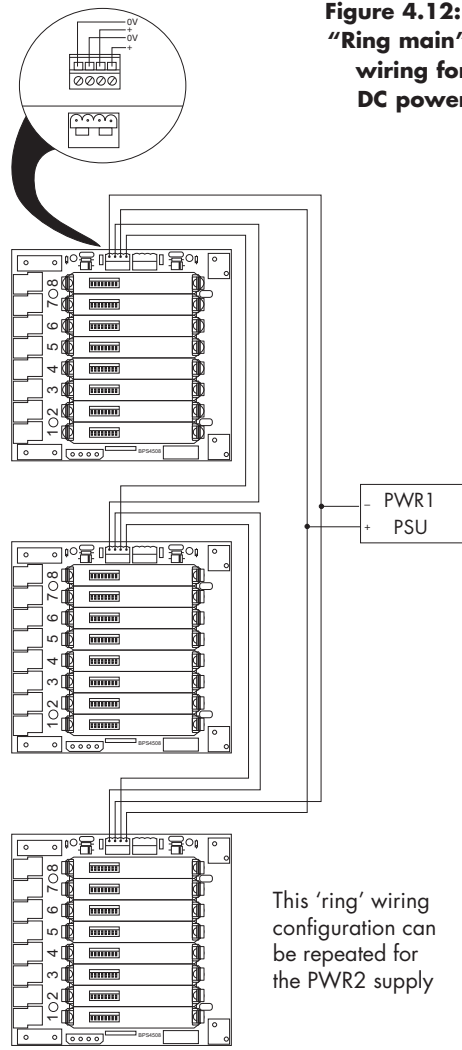

Figure 4.10:
- Connect each of the two 21V to 35V dc power supply connectors to the independent supply sources according to the terminal assignments shown in Figure 4.10. The maximum permissible wire size is 2.5mm² (14 AWG).